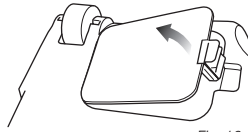

Fig. 10
- 3 Push in the locking tab and lift off the battery compartment cover. (Fig. 10)